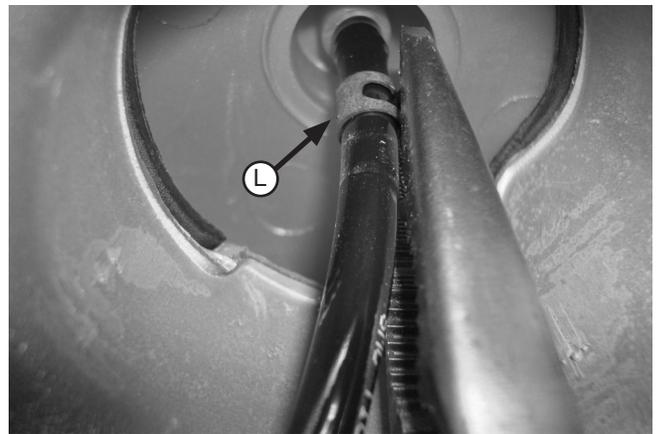

Fig. 3
4. Insert the flattened end of the air spring into the top opening in the coil spring, with the stem at the bottom (Fig. 3). Push the spring down into the cylinder by hand or with a blunt instrument such as a spoon-type tire iron.